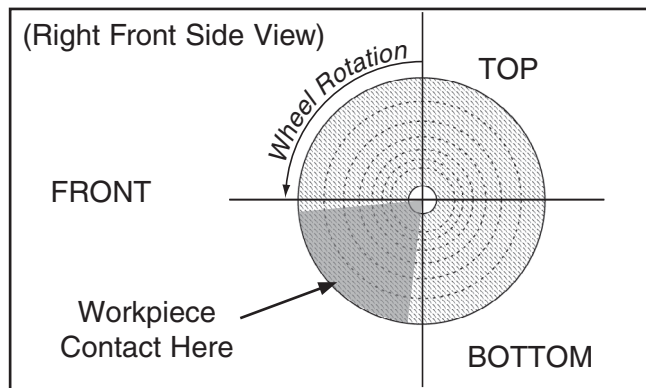

Figure 17. Location where workpiece should contact wheel.
- Only use the area indicated in **Figure 17** to do the actual buffing. Contacting the workpiece on areas outside the correct area may flip the workpiece out of your hands.
7. Lightly and evenly move the workpiece back and forth on the edge of the buffing wheel in the area indicated in **Figure 17, Page 19**, until the workpiece surface is buffed to your satisfaction.